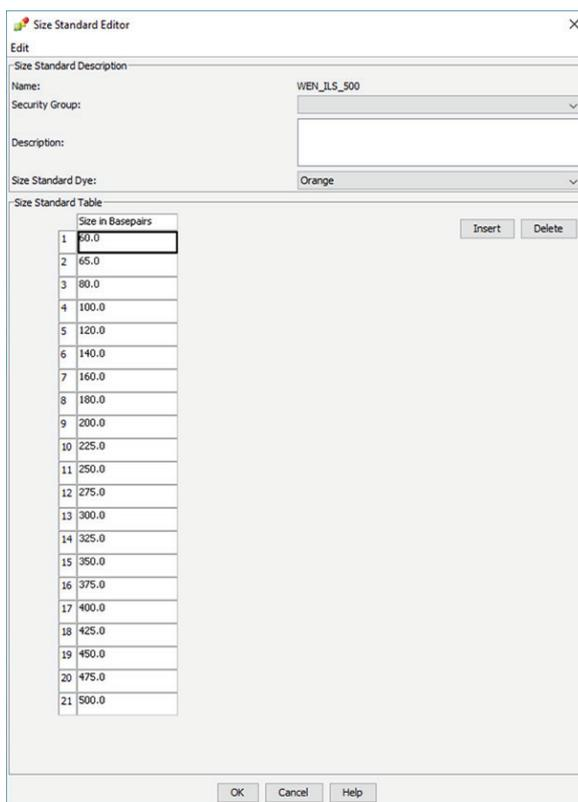

Figure 13. The GeneMapper® ID-X Software, Version 1.4, Size Standard Editor.
4. In the Size Standard Editor window (Figure 13), select “GeneMapper ID-X Security Group” as the Security Group. This allows access for all users of the software. Other security groups may be used.